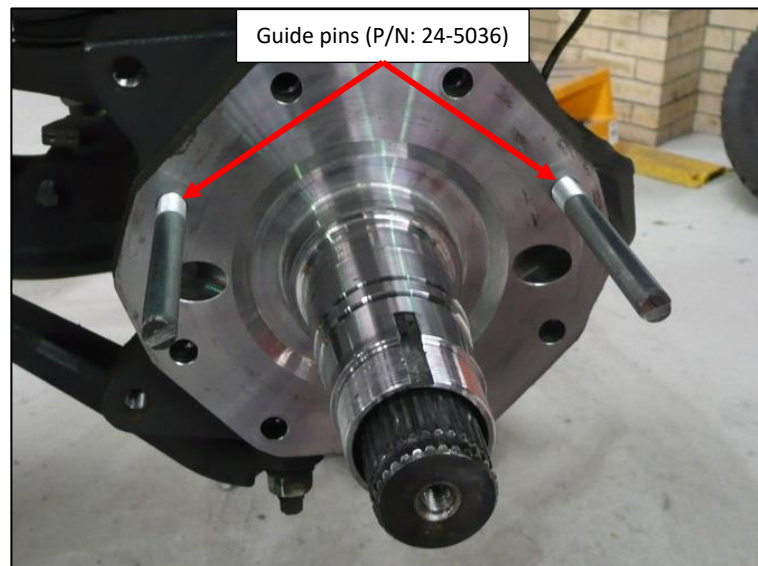

Fig. 33
6. Install the 2x guide pins provided. See Fig. 33
Do NOT use the guide pins that were provided in Fig 33. which are M10 x 1.25